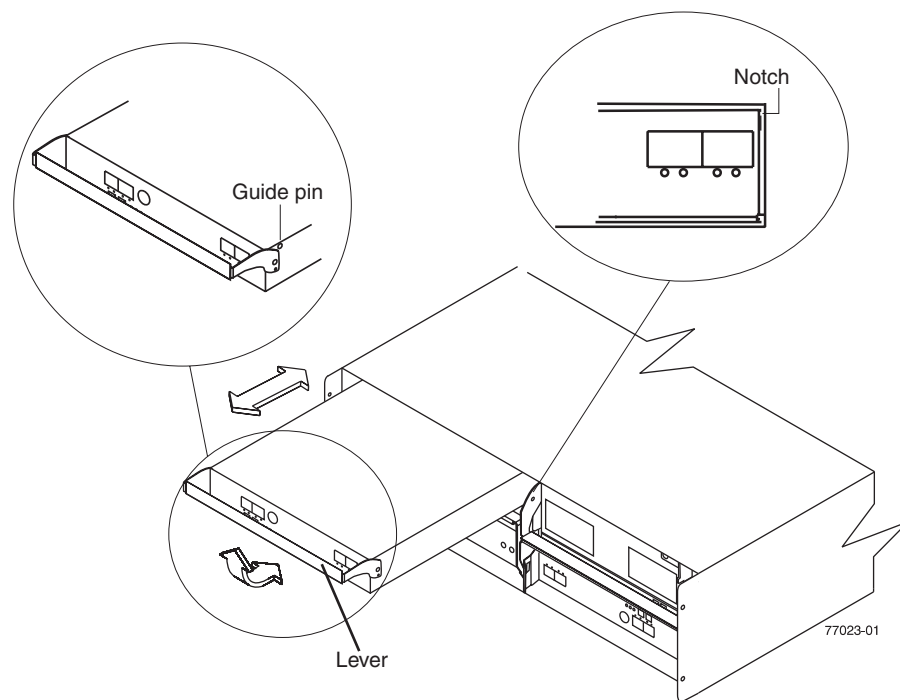

Figure 108. Installing a controller
- a. Slide one controller into the empty slot in the storage subsystem. Be sure that the lever is pulled straight out as you slide the controller in, as shown in Figure 108.